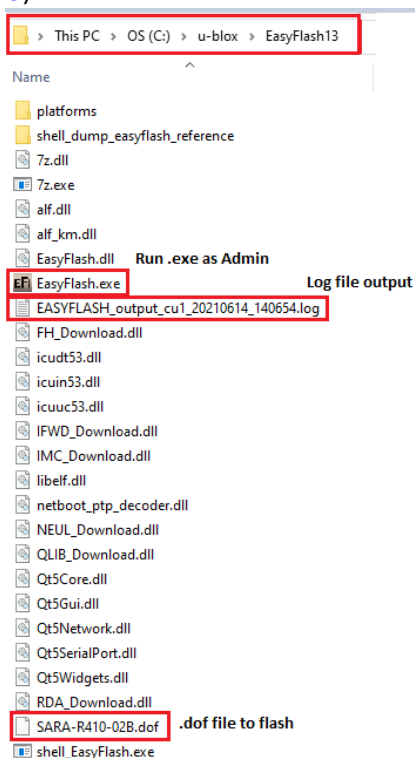

Figure 5: EasyFlash directory and file details
1. Copy the FW .dof flash file into the same directory as where EasyFlash .exe is installed (see Figure 5).